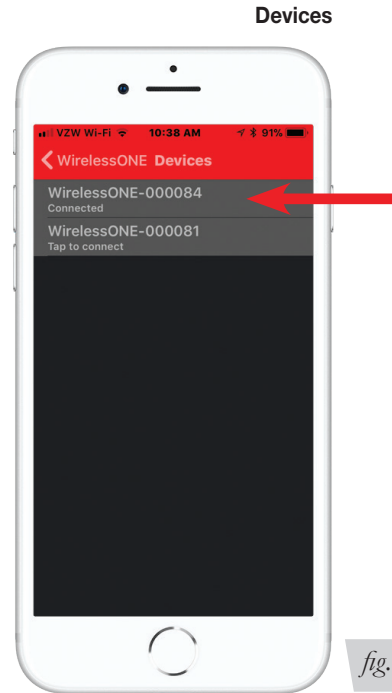

fig. C.2
3. The app will automatically go to the devices screen if no connected manifold is detected. Click on the device you want to pair. The manifold will have WirelessOne in the title. Each device also shows the connection status (Fig. C.2).